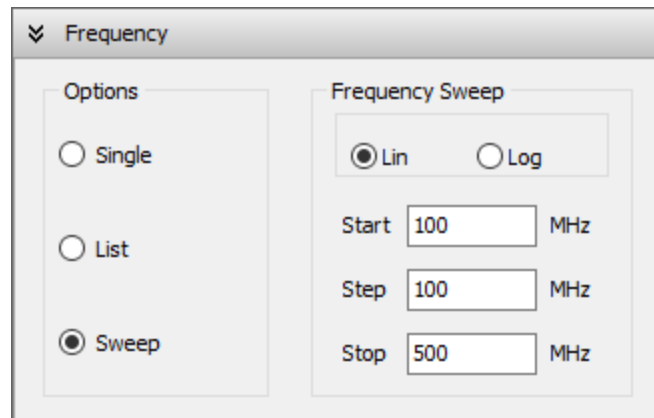

Fig. 3: Frequency panel in the Setup tab with a linear frequency sweep set.
- For a *linear sweep*, specify the start, step, and stop frequencies (**Fig. 3**).